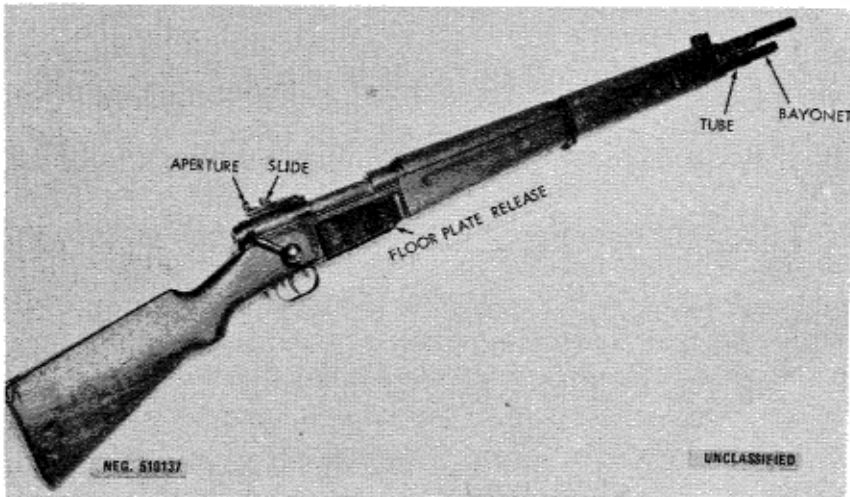

Figure 138. French M.A.S. 36 rifle.
a. The MAS-36 is operated in the same manner as the FR-F1 rifle (para 176). The easiest way to unload this rifle is to open the bolt and, after catching the ejected cartridge, leave the bolt open. Squeeze in the floor plate release (fig 138) and open the floor plate; the cartridges will fall out of the magazine.
b. Set the rear sight for the desired range by depressing the aperture (fig 138) and moving the slide until it is aligned with the